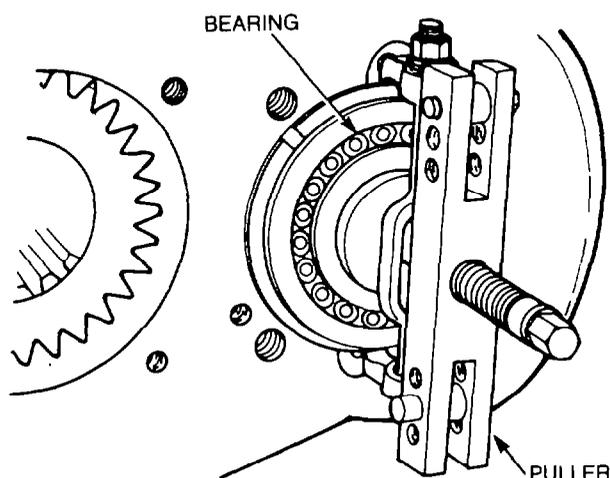

Figure 168 — Countershaft Front Bearing Removal
- w. Using a suitable bronze drift and a hammer, drive the countershafts toward the front of the transmission to enable the bearing puller to be correctly positioned behind the snap-ring on the countershaft front bearings. Remove the snap-ring locating the bearings on the countershafts, then position the feet of the bearing puller behind the snap-ring on the bearing and remove the bearing (see Fig. 168).